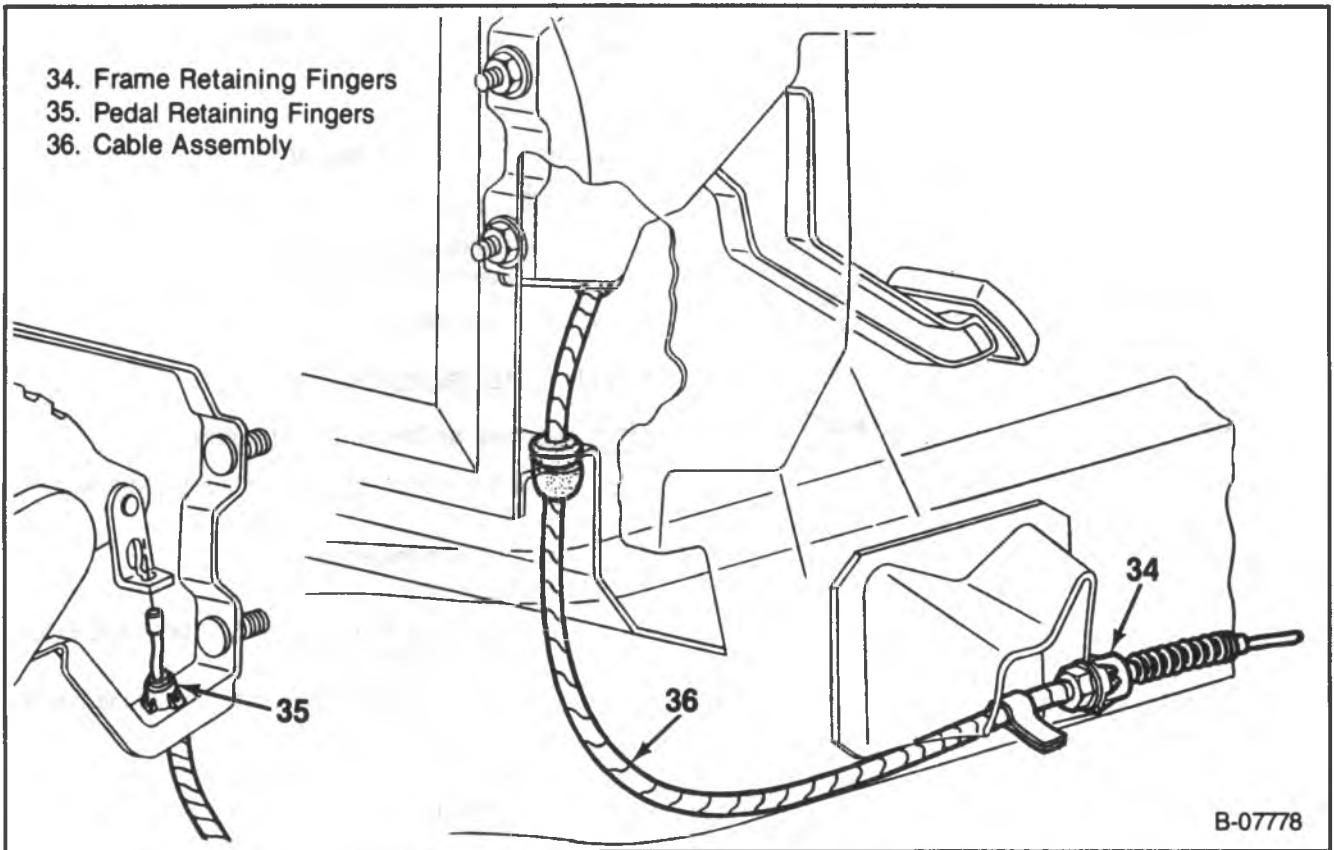

Figure 23 — R/V Front Cable Components
1. Nuts (1).
2. Release rod (3).
3. Bolt (2).
5. Parking brake cable (Figure 23)..